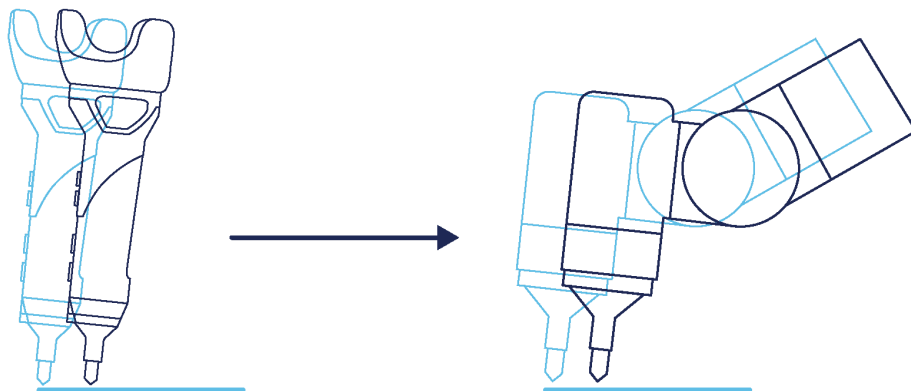

Figure 2 - Recording a movement with Mimic IR
Mimic with IR Tracker consists of a standard joystick with a Tracker that can be mounted into it. The Tracker uses infrared (IR) light for recording human motions and transferring them to a robot (Figure 2).